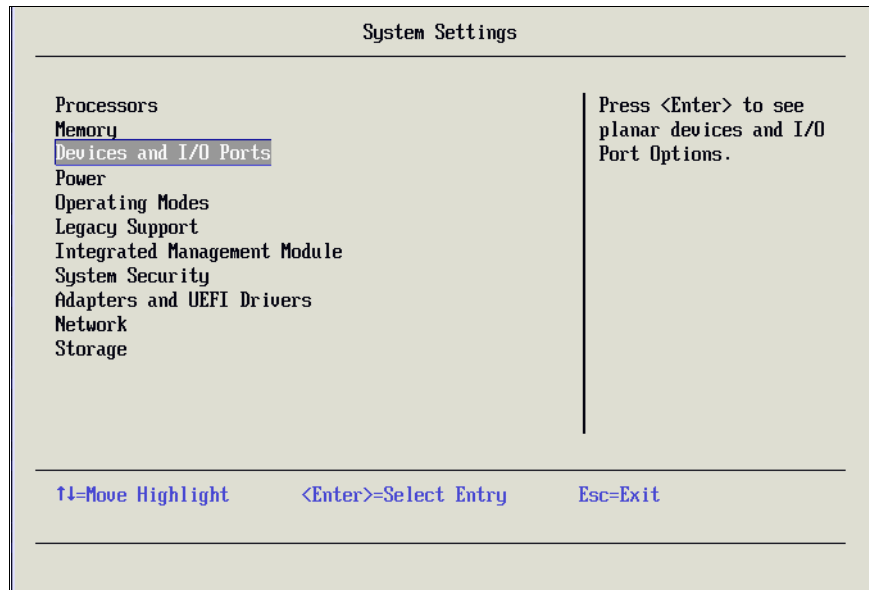

Figure 2-12 Selection of Devices and I/O Ports
2. Select **System Settings** from the main menu. Then select **Devices and I/O Ports**, as shown in Figure 2-12.